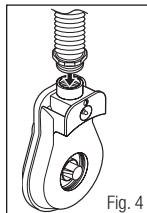

Fig. 4
1. If using the H-115, GVP-122, L-122 or GVP-123 breathing tube, screw the threaded end into the outlet port of the GVP-100 as shown in Fig. 4.